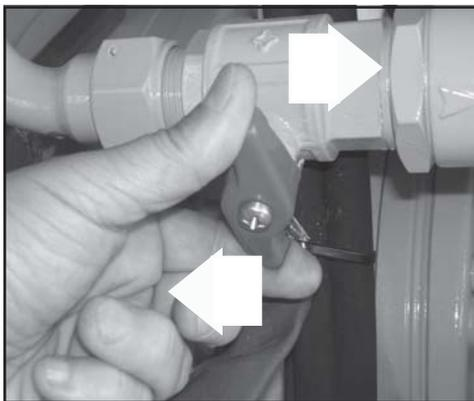

fig.4
step 2 - screw the tap lever in place (**fig. 3**) and close the circuit (**fig. 4**). Replace the cartridge after filling it with oil.
- 5) Always replace one cutter and corresponding mounting screws (3, Fig. 2) at a time: ensure that the new cutter is in the same position and rotates as shown in fig. 4.